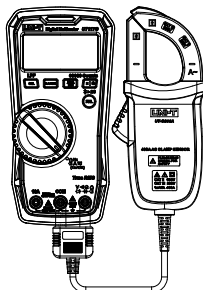

Figure 8
7. Capacitance measurement (Figure 8)